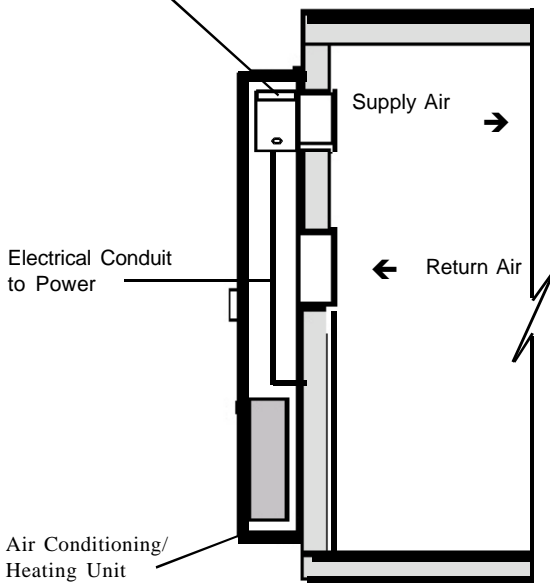

Fig. 2 Side View Mounting Option
1. Choose a location that is readily accessible for regular inspection and cleaning. Figs. 2, 3 & 4 shows possible mounting locations.